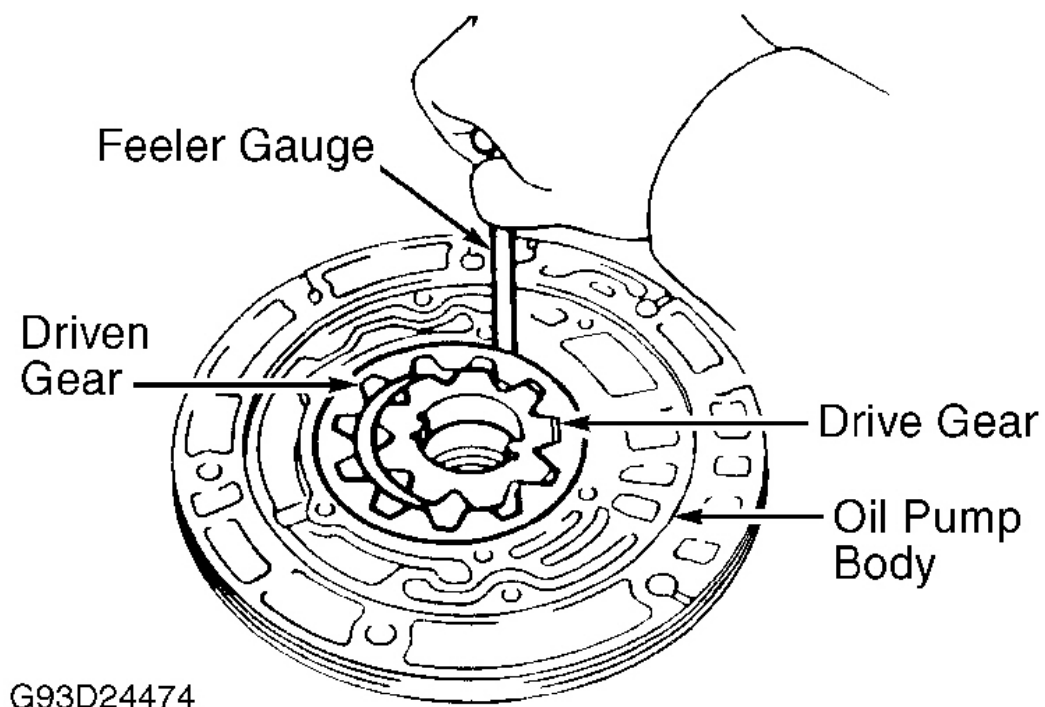

Fig. 24: Checking Oil Pump Driven Gear Clearance
1. Note position of oil pump gears. Clean all parts with solvent. Dry parts using compressed air. Ensure oil passages are clear. Check driven gear-to-body clearance. Push driven gear against one side of oil pump. Measure clearance between driven gear and oil pump body. See **Fig. 24**. Replace oil pump body if clearance is not within specification. See **OIL PUMP CLEARANCE SPECIFICATIONS** table.